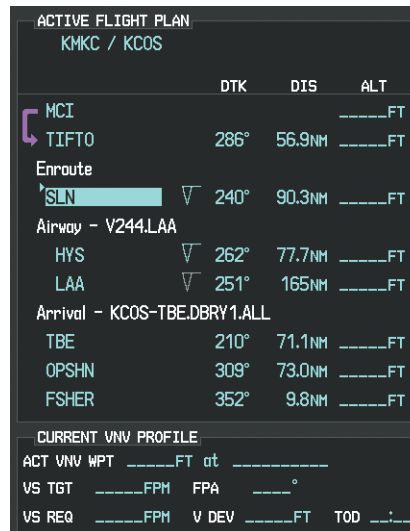

Figure 5-108 Begin Adding V4 to the Flight Plan
- b) The desired entry point for V4 (TOP) must be entered. Turn the large **FMS** Knob to highlight the desired flight plan insertion point (SLN) as shown in Figure 5-108. When the V4 entry point (TOP) is inserted, it is placed immediately above the highlighted waypoint (SLN).